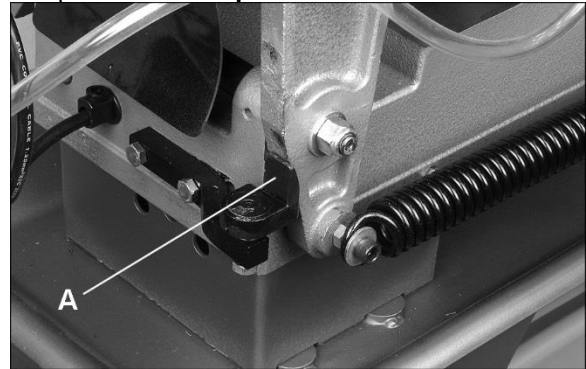

Figure 8-1: disengaging stop bracket
- 2) Rotate stop bracket (A, Figure 8-1) and hold it out of the way, while lifting bow to upright position. **Pinch point – use caution!**